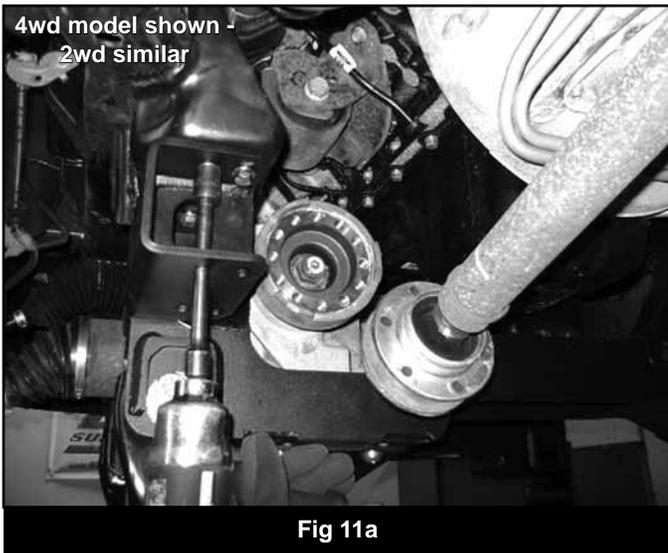

Fig 11a
23. Install the sway bar drop brackets with new 3/8" x 1-1/4" bolts, washers and nuts. Run hardware from bottom - up, snug but do not tighten at this time. Attach the crossmember 18mm nut with 3/4" USS washer (BP 773). Note: Use a ratchet extension through the lower slots to access the hardware (Fig 11a, 12b)